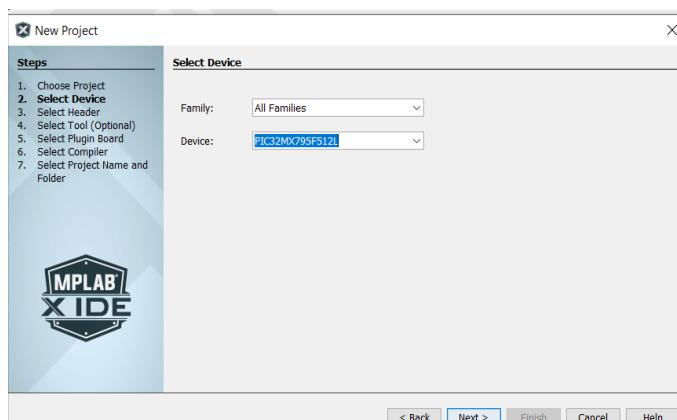

Fig. 5.2
4. In device, type **PIC32MX795F512L** and click Next. (**Refer Fig. 5.2**)